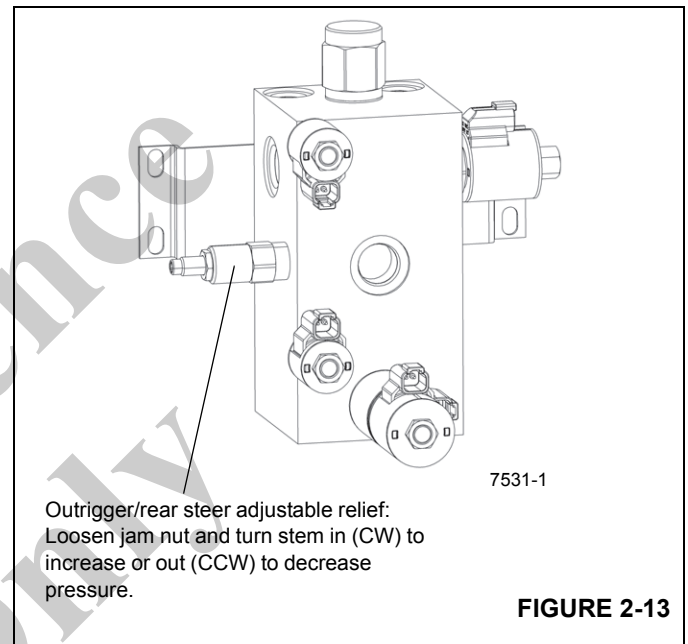

FIGURE 2-13
1. Install pressure check diagnostic quick disconnect with gauge onto test nipple at outrigger/rear steer valve pressure check port (Figure 2-13).